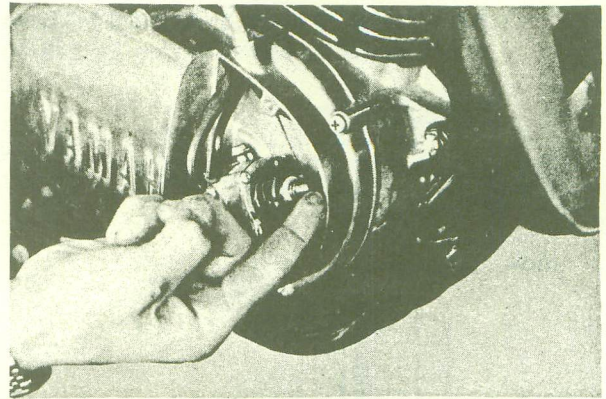

Fig 2-3-4
- 2) Install a 0.1mm .adjustment shim where the adjustment plate was. (Fig. 2-3-4)